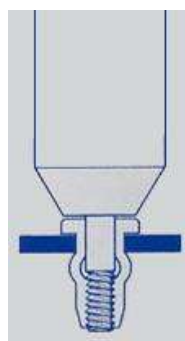

Fig.3
7. Firmly screw in without exceeding the indicated torque in the table section 6 (Fig. 3).